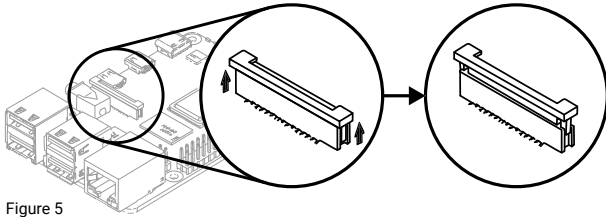

Figure 5
- 15 On your Raspberry Pi, unlock the camera connector by lifting the thin plastic latch, as shown in figure 5. Place a fingernail under each end and lift. It doesn't go far.